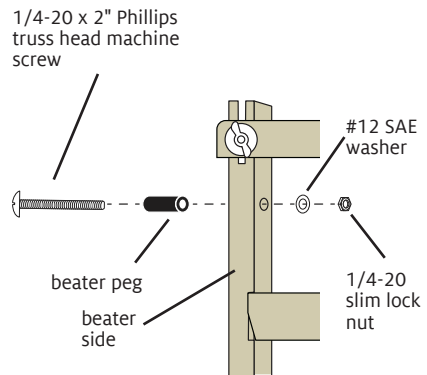

FIGURE 3: INSTALLING BEATER PEGS
6. Insert a 1/4-20 x 2" Phillips truss head machine screw through a 1" plastic beater peg, then through the beater side from its outer side (Figure 3).